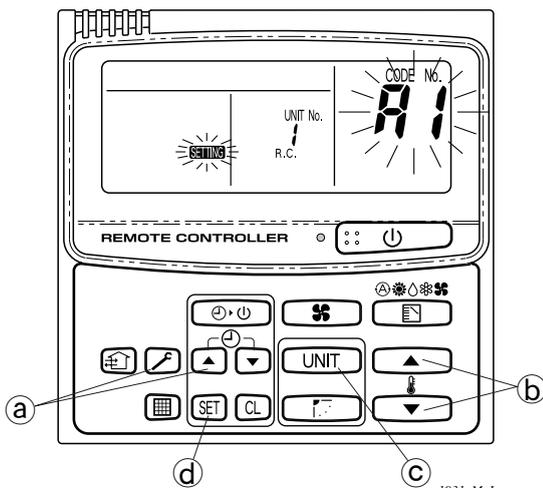

Fig. IV-7
- a Press the **OK** and **▲** ( **⊕** ) buttons at the same time for more than 4 seconds. (Fig. IV-7)